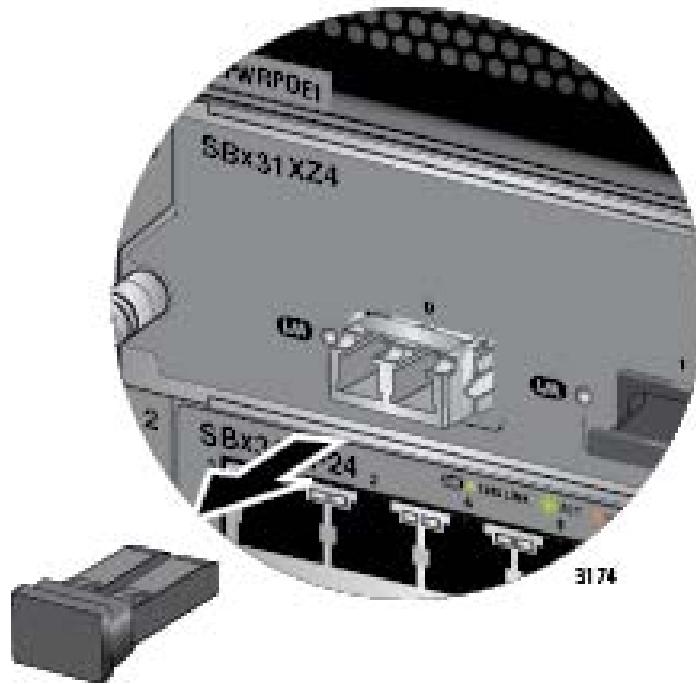

Figure 108. Removing the Protective Cover from an XFP Transceiver in the AT-SBx31XZ4 Line Card
5. Remove the protective cover from the fiber optic port on the XFP transceiver, as shown in Figure 108 on page 173.